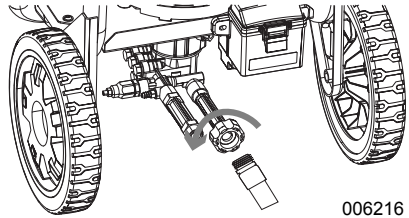

Figure 2-10. Connect Water Supply Hose
- See Figure 2-10. Connect water supply hose to pump water inlet and hand-tighten.